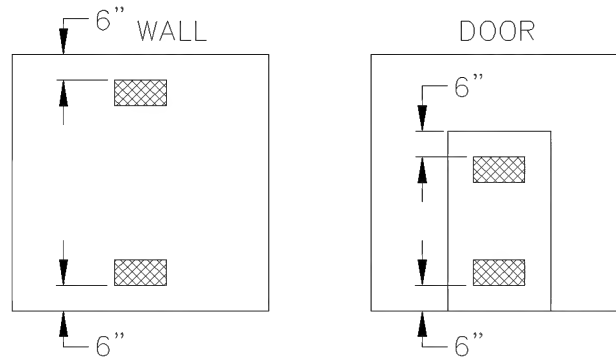

Figure 1
6. The area in which the furnace is located must have an adequate supply of air for ventilation. Open non-partitioned basements, below grade utility rooms without storm windows or rooms with loose access doors will generally permit adequate air infiltration. However, if the furnace is located in an area of the building with tight doors and windows, outside ventilation or an opening into another room is recommended. This can be accomplished with two rectangular openings located in a wall or door, one 6" from the ceiling or at the top of the door and one 6" from the floor or at the bottom of the door each having a free area of not less than 1 square inch per 1,000 BTUH input but not less than 100 square inches (see example in Figure 1). These openings must be free and unobstructed. Maintain a minimum 24" clearance to ventilation openings which provide ventilation air to the furnace (see Figure 1).